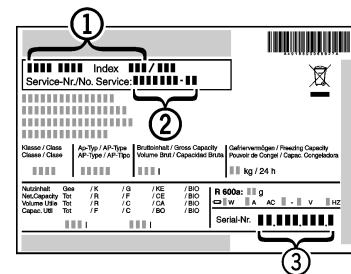

Fig. 17
▶ Notify a qualified service provider, specifying the fault, appliance designation Fig. 17 (1), service no. Fig. 17 (2) and serial Fig. 17 (3) no.